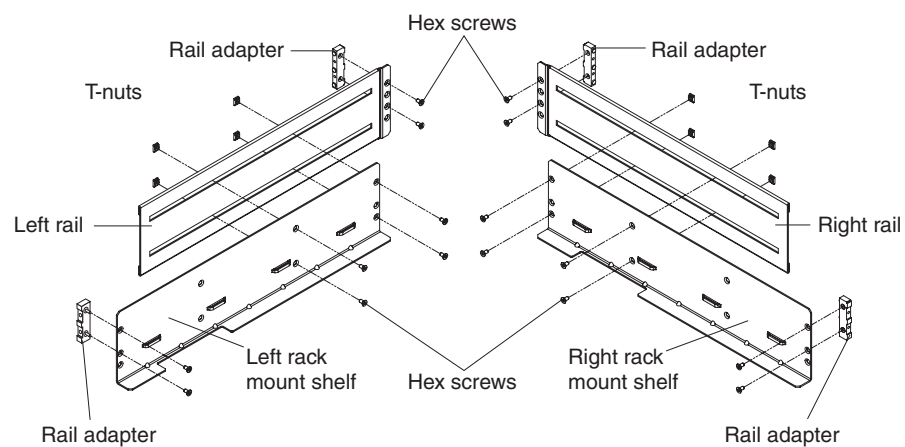

Figure 6. Assembling the rack rails
4. Assemble the rack shelves (see Figure 6 on page 9):